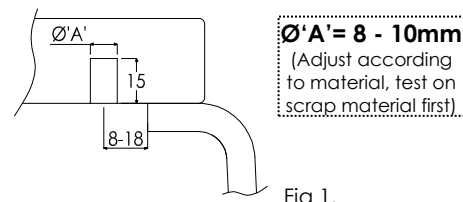

Fig 1.
- When creating the cut-out aperture you should also create a series of holes in the reverse face of the worktop to accept the undermount bracket inserts. The holes should be sized and positioned away from the edge of the sink as shown in Fig 1. All brackets supplied should be used and spaced equally around the perimeter. Where the sink has long and short sides more brackets should be used on the longer sides.